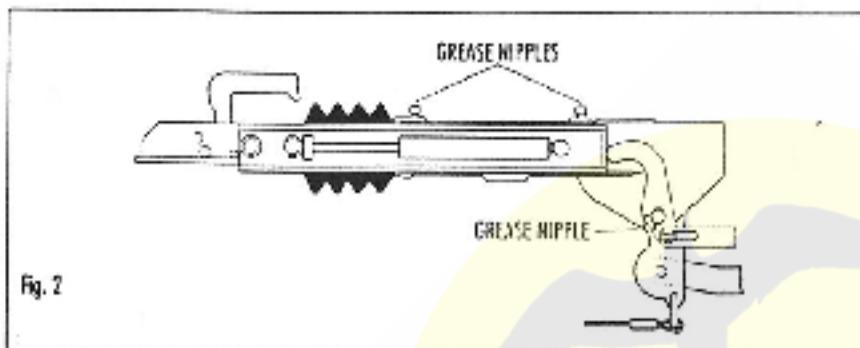

Fig. 2
- Fig. 2 : thread the button of the new rubber back through the center of the "D" ring